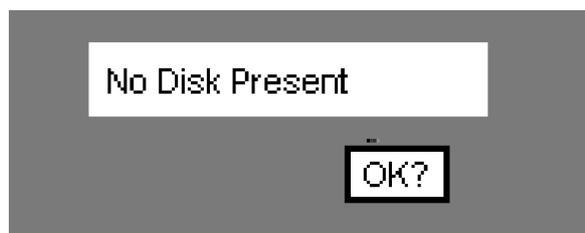

Figure 3-18 Transient Window Example
D. Transient Windows - Transient windows are those that appear momentarily. They pop up over any existing window to inform the user of a problem or of a background task being completed. They require a user response, normally pressing the "OK?" button, to acknowledge the message. Figure 3-18 shows an example Transient Window.